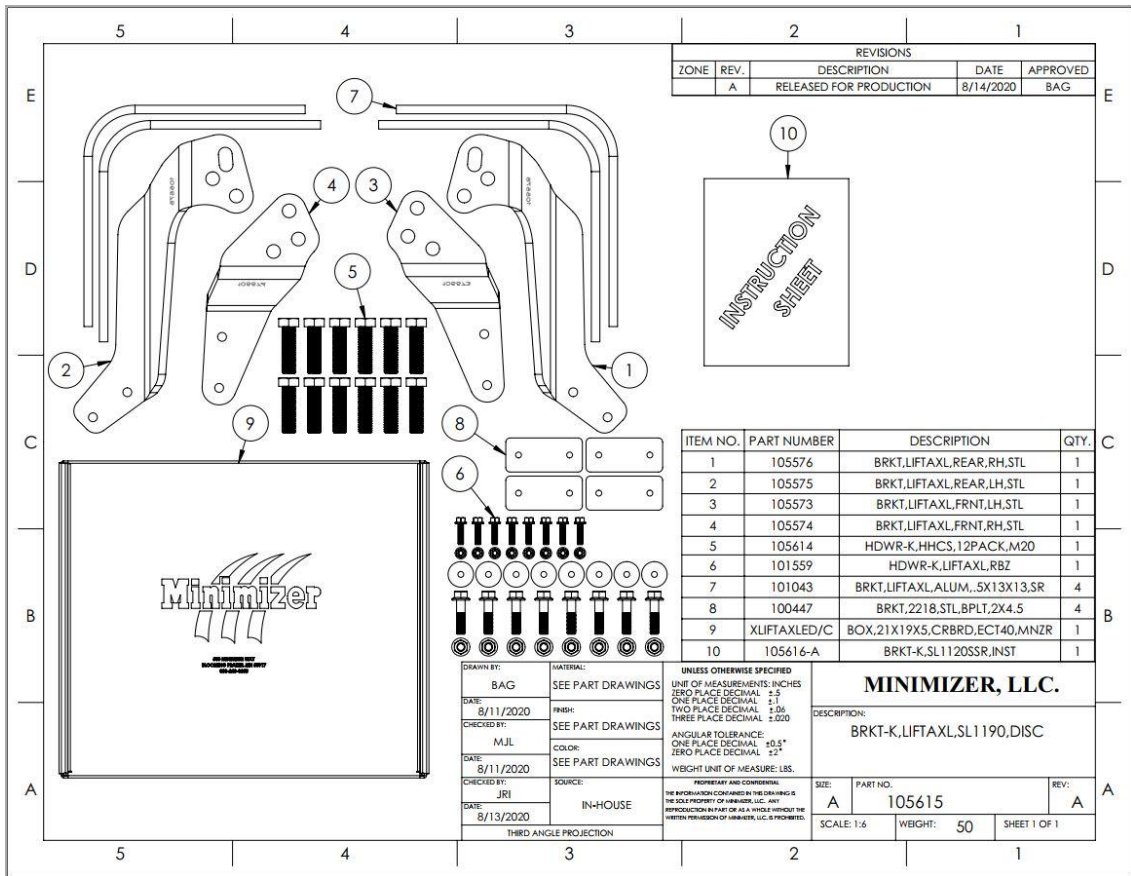

Figure 1
- B. Compare the parts with hardware kit 105615 shown below in Figure 1.